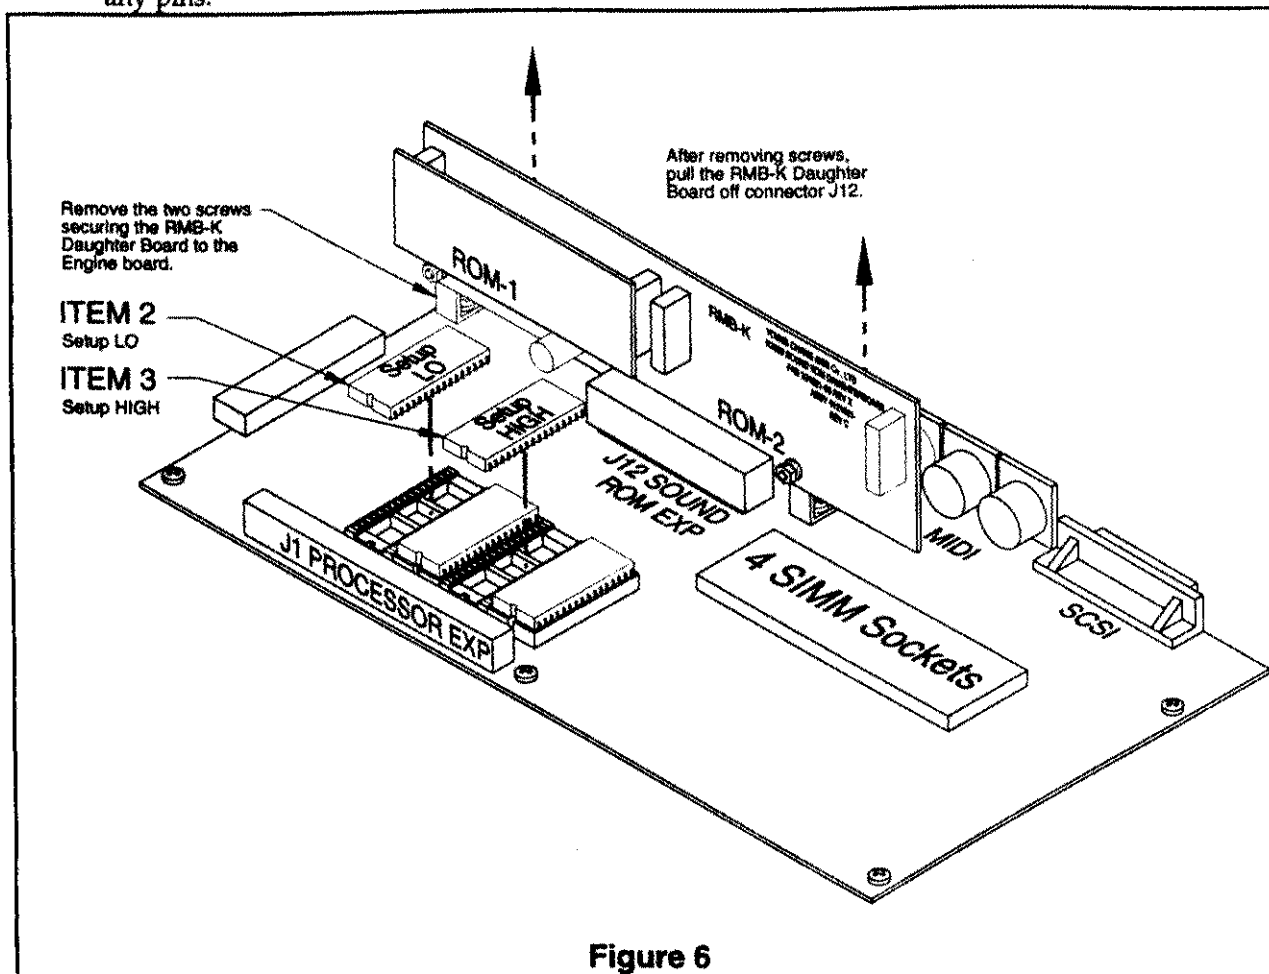

Figure 6
8. See Figure 6. Take Item 2, Setup LO EPROM, and place it into the left-most socket. Be sure that the notch in the EPROM indicating pin one is facing J1. Gently push the EPROM into the socket, making sure that all pins are inserted correctly. Be careful not to bend any pins.
9. See Figure 6. Take Item 3, Setup HIGH EPROM, and place it into the second socket from the right. Be sure that the notch in the EPROM indicating pin one is facing J1. Gently push the EPROM into the socket, making sure that all pins are inserted correctly. Be careful not to bend any pins.
10. See Figure 6. Looking at the Engine PCB with the MIDI & SCSI connectors facing away from you, locate J12, the 48 pin connector labeled "SOUND ROM EXP". It is to the left of the SIMM sockets
11. See Figure 6. Remove the two Engine Board mounting screws which go through the RMB-K Daughter Board mounting brackets. Then carefully disconnect the RMB-K Daughter board from connector J12.